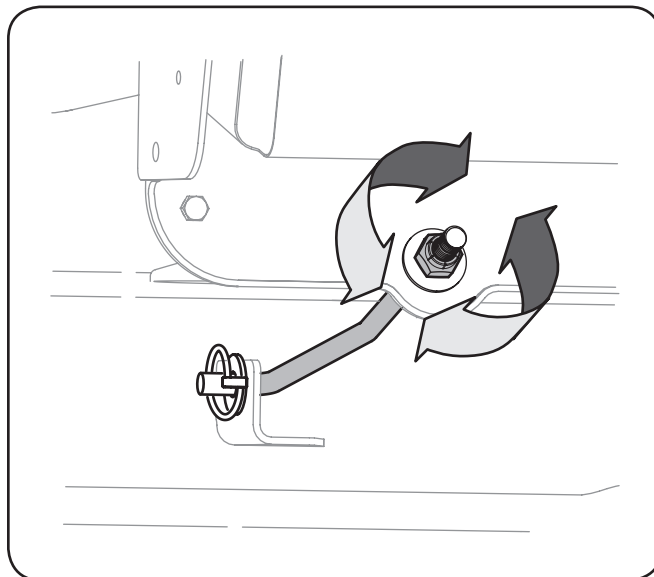

Figure 6-4
1. Locate the hex lock on the end of the deck hanger rod. See Figure 6-4.
- To *lower* the front of the deck, loosen (thread outward) the hex nut, away from the front hanger bracket. See Figure 6-4.